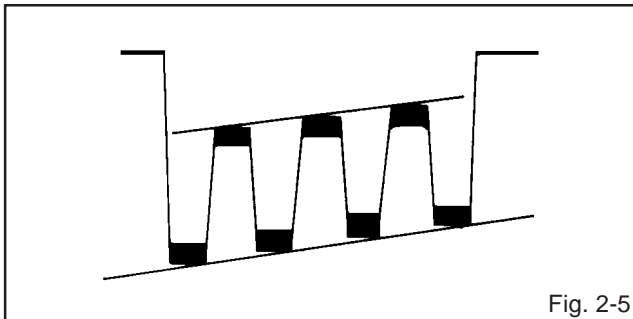

Fig. 2-5
5. Press the VOL. UP/DOWN button on the remote control until the waveform becomes as shown in **Fig. 2-5**.